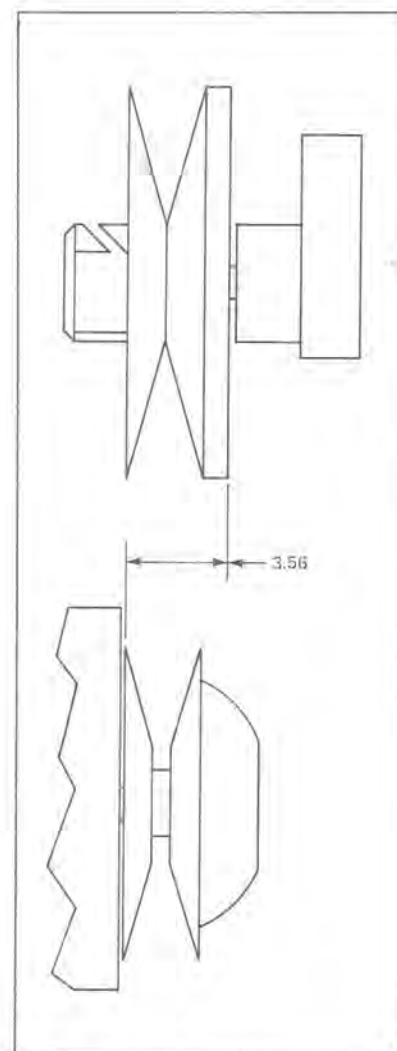

Figure 10-5
- i. Primary - secondary alignment, measured from drive belt surface of flywheel at outside diameter and chain case side of fixed secondary sheave shall be 3.56 inches. See Figure 10-5.
- h. Primary - secondary alignment, measured from drive belt surface of flywheel at outside diameter and chain case side of fixed secondary sheave shall be 3.56 inches. See Figure 10-5.